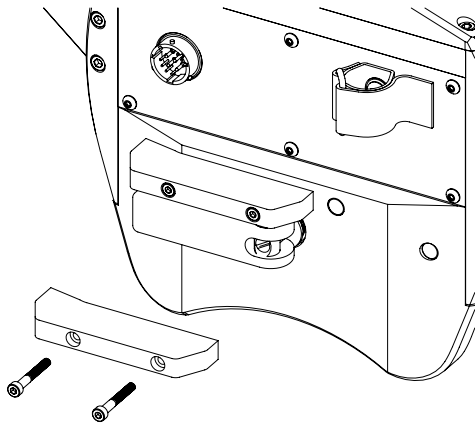

FIGURE 11 - Latch Guard Removal
1. The first step in adjusting the clamp latch tension will be to remove the bottom guard from the clamp latch. *Note: This step is not required for machines with code number 12785.* See **FIGURE 11 - Latch Guard Removal**.